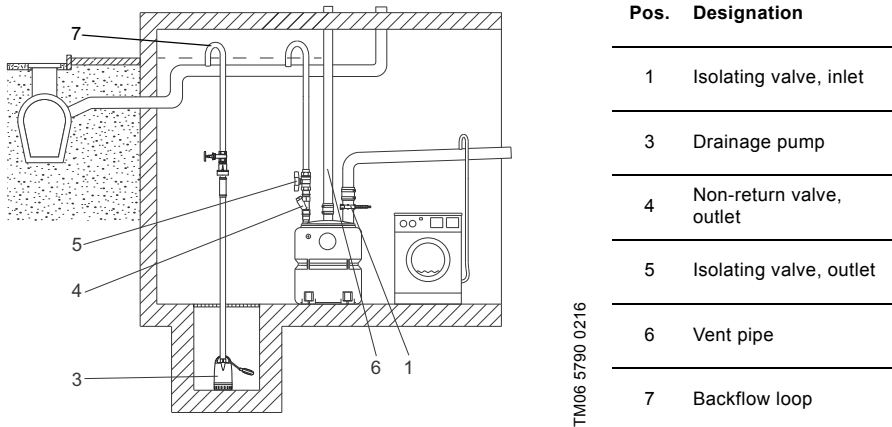

Fig. 2 Installation example with a tank on the basement floor. The diaphragm pump is not shown.
- All outlet pipes from the lifting station, diaphragm pump and drainage pump must have a backflow loop, i.e. a bend above the local backflow level. Commonly, the highest point of the bend must be above street level. See fig. 2.